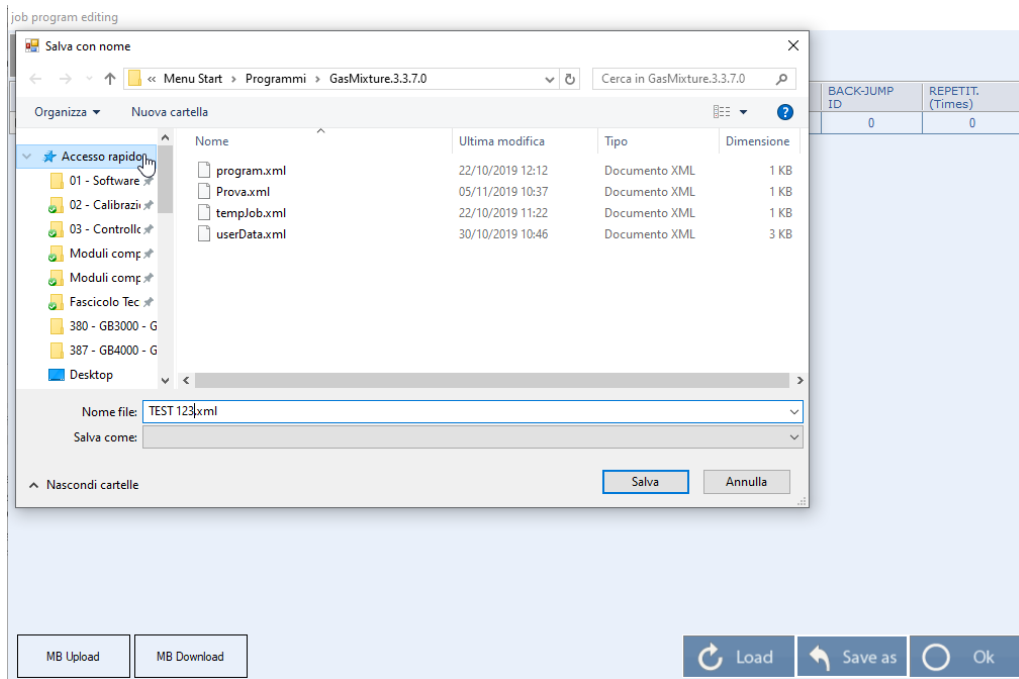

Figure 5-33
3. Once you have created your “program job” you can click the button “**Save as**” to memorize the program in an external file on the computer with your desired name (i.e. TEST 123). (Figure 5-33)